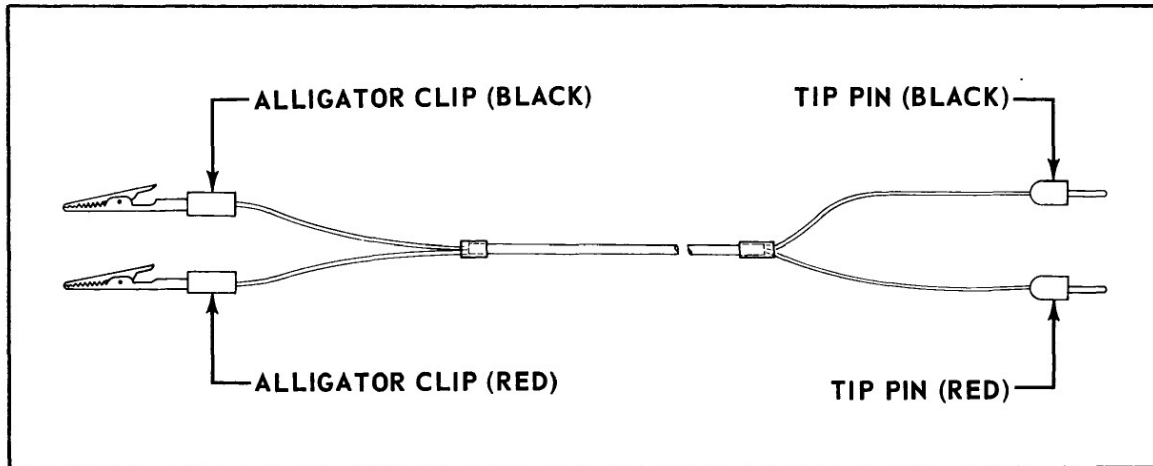

Figure 5-3. Radio Coupler Power Cable
20. Find the RADIO COUPLER POWER CABLE with the RED and BLACK alligator clips on one end. (Refer to Figure 5-3.) Plug the RED and BLACK MALE PLUGS of the Coupler Test Box Power Cable into the red and black female receptacles located on the face of the Radio Coupler Test Box LABELED DC INPUT.